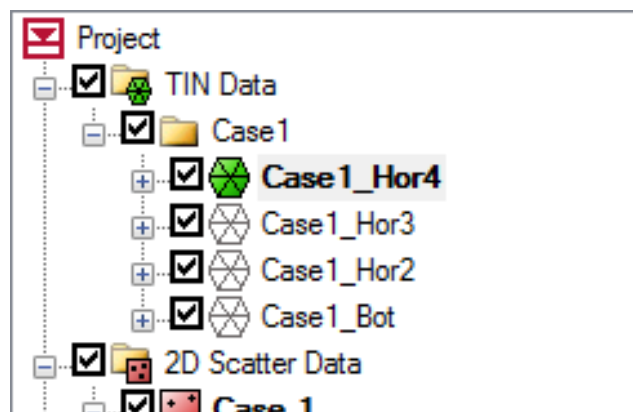

Figure 5 TINs organized into a folder
3. In the Project Explorer, drag and drop each of the four TINs into the “Case1” folder (see Figure 5).